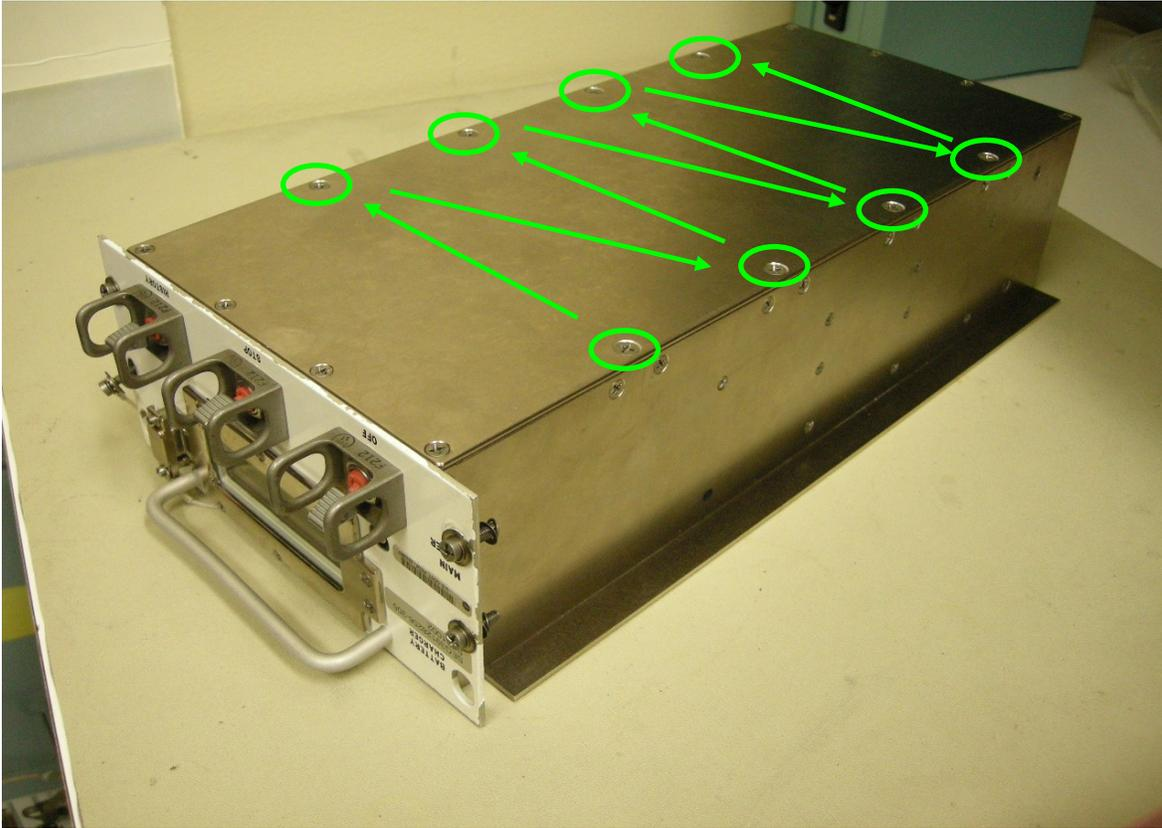

Figure 2.- Bottom View of BCM, size #8 Fasteners
- 2.1 Remove non-captive size #8 fasteners (eight) from BCM bottom cover in alternating pattern as indicated in Figure 2 (Driver Handle, 1/4" Drive; 1/4" to 3/8" Adapter; #8 Long Torq Driver, 3/8" Drive). Stow non-captive fasteners in "#8" location on Gray tape.